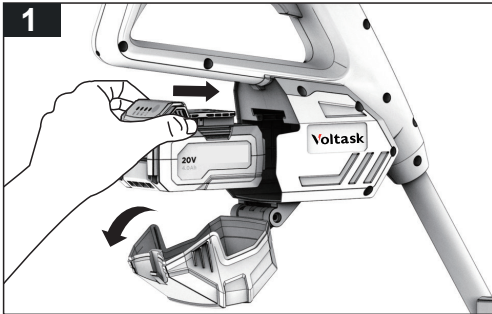

Fig. 6
- a. Open the battery pack compartment cover. Slide the battery pack into the port inside of the compartment. Push to the end with sufficient force until it clicks to lock in place. (Fig.6)